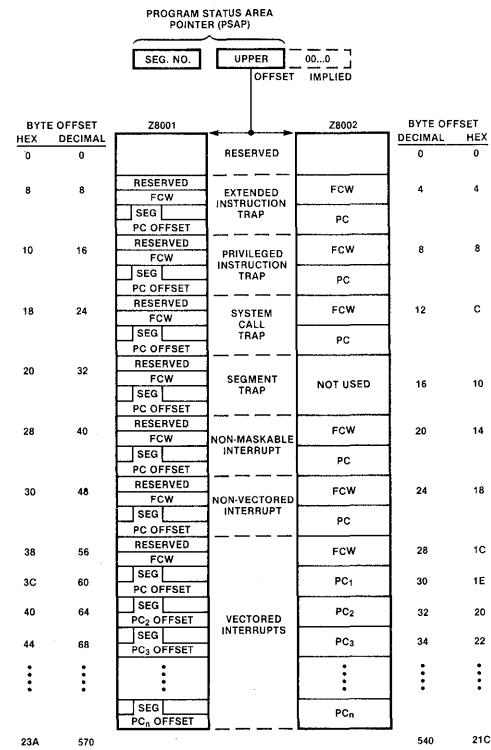

Figure 7-2. Program Status Area
The Program Status Area is addressed by a special control register, the Program Status Area Pointer, or PSAP. This pointer is one word for the nonsegmented Z8002 and two words for the segmented Z8001. As shown in Figure 7.2, the pointer contains a segment number (if applicable) and the high-order byte of a 16-bit offset address. The low-order byte is assumed to contain zeros; thus the Program Status Area must start on a 256-byte address boundary. The programmer accesses the PSAP using the Load Control Register instruction (LDCTL).
7.6.3 Loading New Program Status. After saving the current program status, the new program status (PC and FCW) is automatically loaded from the Program Status Area in system program memory. The particular status words fetched from the Program Status Area are a function of the type of trap or interrupt and (for vectored interrupt) of the interrupt vector. Figure 7.2 shows the format of the Program Status Area.